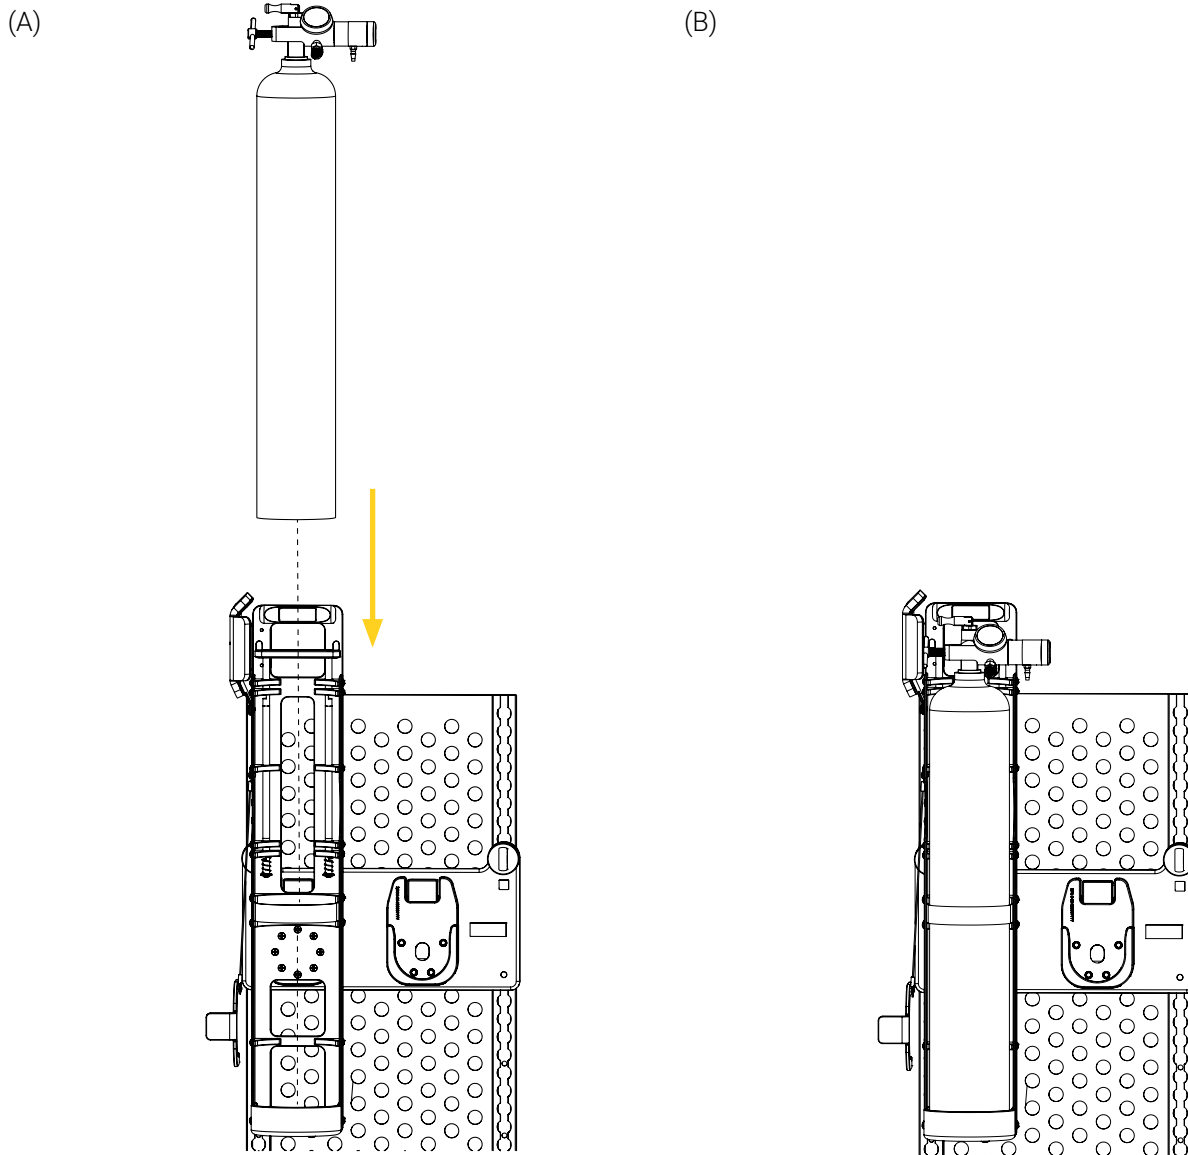

Figure 7: Installing the gas cylinder
3. Insert the gas cylinder vertically in the gas cylinder holder (Figure 7).